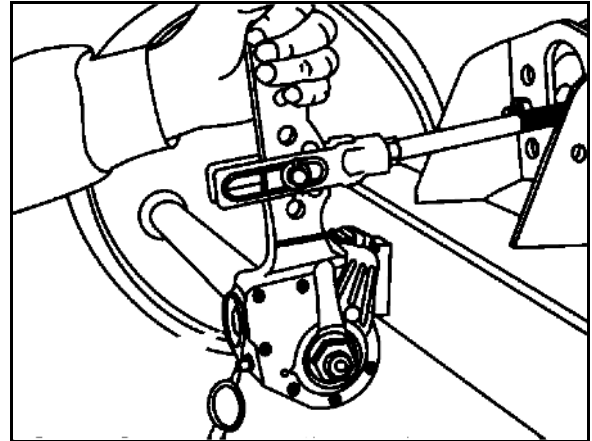

Fig. 119
Move the linkage adjuster by hand in the pressure direction (Fig. 119). If the free travel of the long-stroke diaphragm cylinder pressure rod is max. 35 mm, the wheel brake must be readjusted.
2. Slacken the adjusting screw (arrow) with a ring spanner (Fig. 119) approx. $\frac{3}{4}$ of a turn anti-clockwise. There must be free travel of at least 50 mm for a lever length of 150 mm.